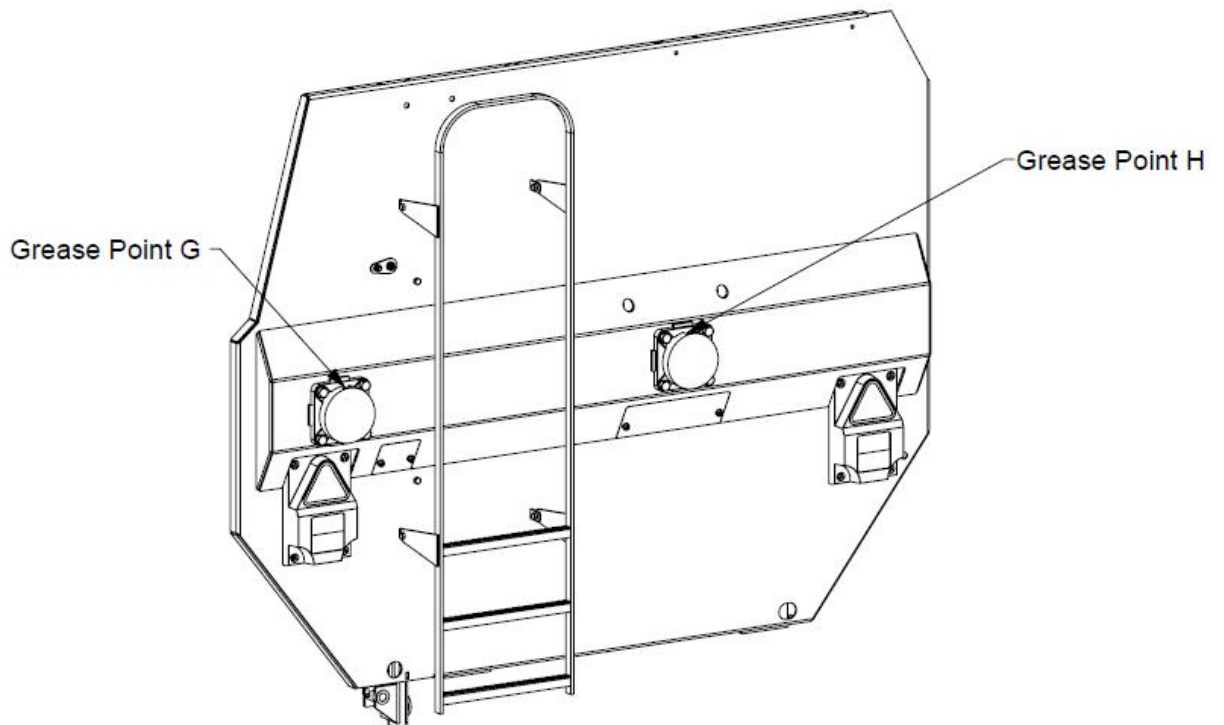

Figure 13: Rear grease points
- d. The two main bearings at the rear of the Keenan Mech-Fiber (G & H, figure 13).